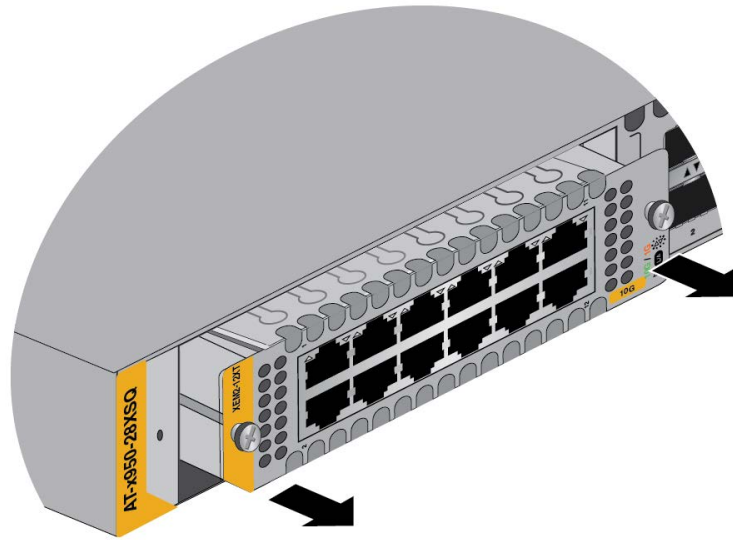

Figure 125. Disconnecting an Ethernet Line Card from the Switch
5. Carefully pull on the screws on the faceplate to disconnect the line card from the internal connector in the switch. Refer to Figure 125 on page 200.